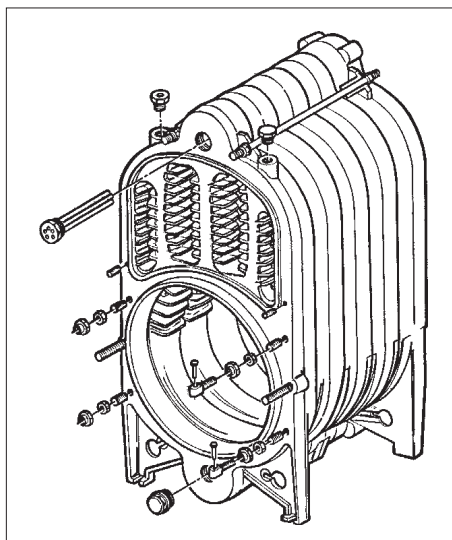

Fig. 19
4.11 (Fig. 19) Mount all parts on the front side as shown in the diagram.